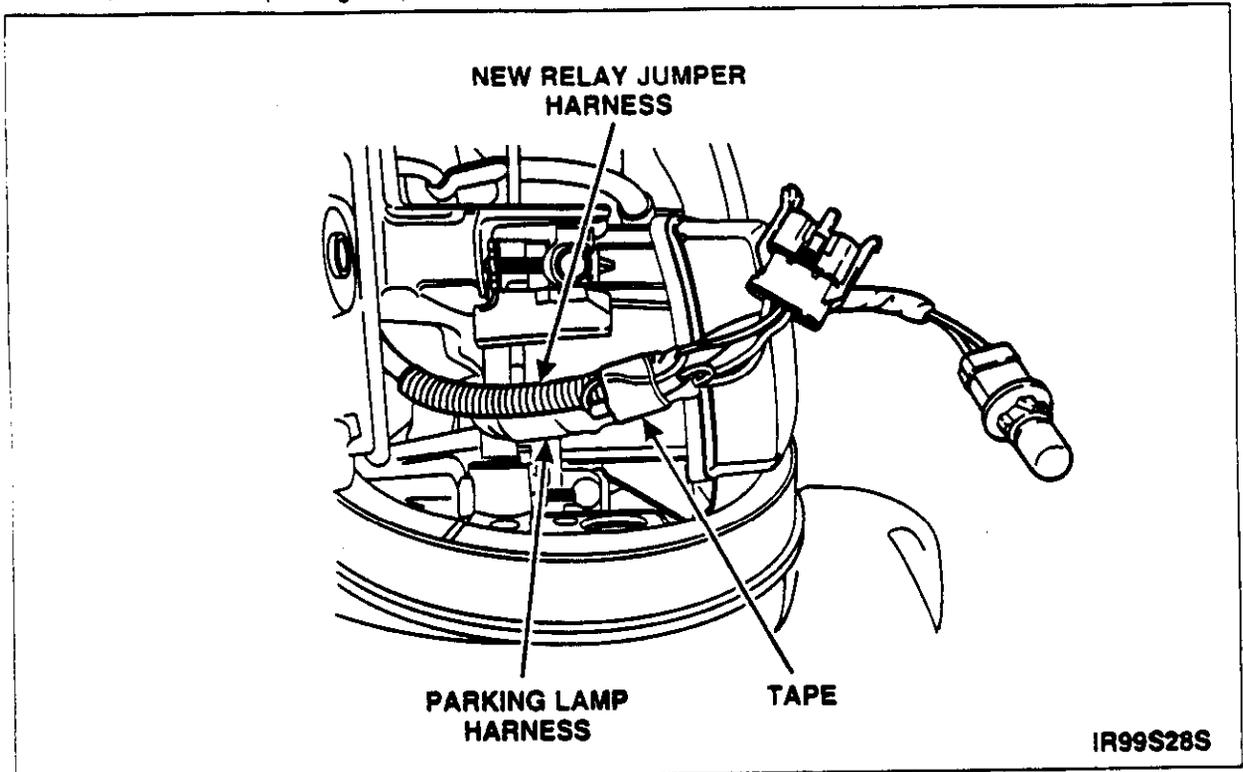

FIGURE 19
29. NOTE: Circuit 57 (BK) requires one (1) 14 gauge wire connector, and circuit 12 (LG/BK) requires one (1) 18 gauge wire connector.
- Using the wire connectors provided in the kit, splice the circuit 57 (BK) and 12 (LG/BK) wires, which were previously removed from the headlamp connector, to the corresponding wires on the **new** relay jumper harness. Then, seal the splice with a heat gun.
31. Route the parking lamp harness back through the radiator support. Secure the *new* relay jumper harness to the parking lamp harness with electrical tape. See Figure 19.